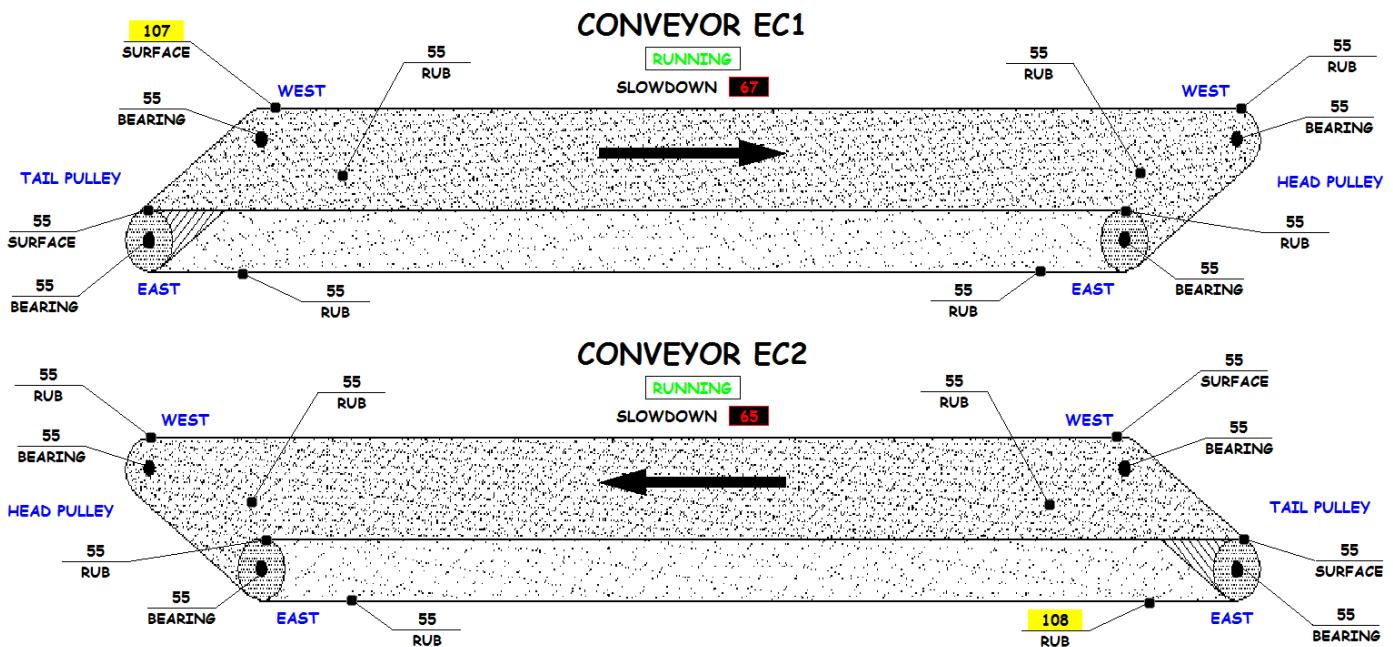

Figure 5 - Showing Hazard Monitoring Screens with Rate of Rise Warning Setpoint reached.
- If any point reaches the Rate of Rise Warning Setpoint (rise of 3° F in 10 seconds, when the temperature is over 100° F), that point will flash Yellow (Figure 5).